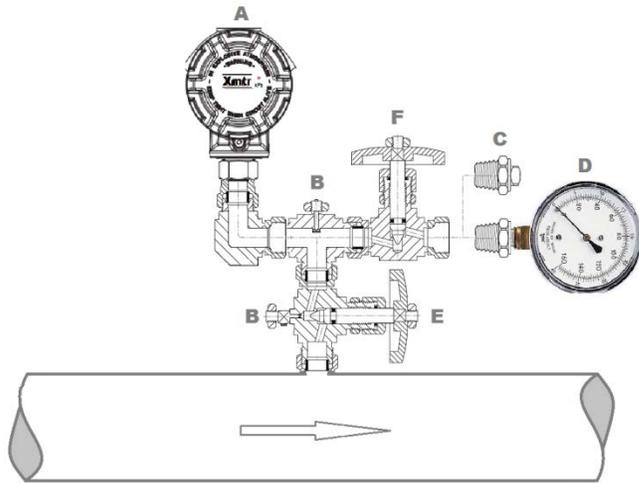

Figure 1 - Pressure transmitter and inspection tap
- Confirm that the installation of the pressure transducer meets section 5.0 of the Terms and Conditions for the Approval of Pressure Transducers. Also see Figure 1 below:
- Confirm that installation of the pressure transducer (A) is as per the installation shown in Figure 1.